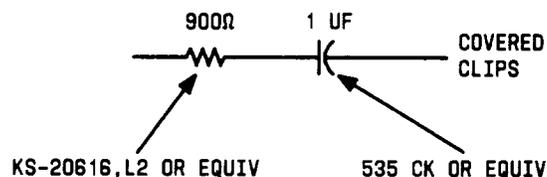

Fig. 2—900 Ohm Test Termination
40. Open FL pair at MDF by installing a 262C-type (900-ohm terminating) plug across office side of FL pair (FIG. 2).
45. Remove test termination (FIG. 2) , reconnect FL pair at MDF.